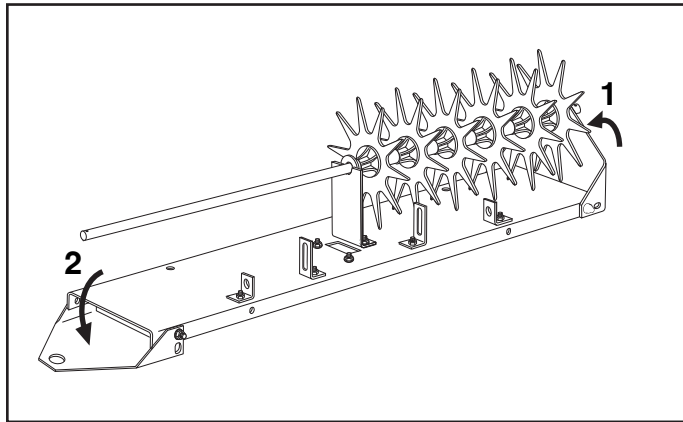

FIGURE 4 REAR VIEW
6. Pivot the end plate on your right side up onto the end of the axle. See figure 4.
7. Pivot the end plate on your left side down out of the way. See figure 4.